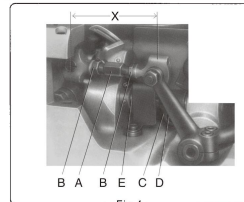
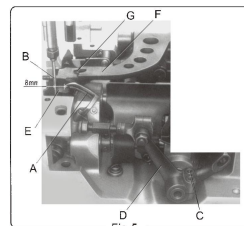
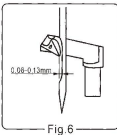
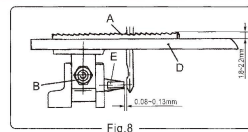

Fig.4
Fig.5
Fig. 6
Fig. 8
(1) Looper
a. First set the looper connecting rod A (Fig. 4), so the distance X (Fig. 4) between the centre lines of the two ball joints is 69.8mm. For adjustment, loosen the two nuts B and turn connecting rod A forward or backward as required to obtain specified dimension. Retighten nuts B.
b. Rotate the machine pulley clockwise by hand, so that the needle bar moves to the lowest point. At this time the looper moves back to its farthest position to the right. The distance from the point of the looper A (Fig. 5) to the centreline of the needle is 5mm. For adjustment, loosen two screws C in the looper drive lever rotate looper drive lever D left or right as required to obtain specified dimension and retighten screws C.
c. Rotate the machine pulley so that the looper A (Fig. 5) moves from right to left. The looper point should pass close as possible as the back of the needle without contacting, about 0.08-0.13mm (Fig. 6) clearance. For adjustment, loosen screw D (Fig. 4) in the looper eccentric fork C and turn rocker shaft E on the looper rocker with the looper forward or backward as required. Retighten screw D.
(2) Needle Bar
The needle guard (Fig. 8) will protect the needle and prevent it from bending when the needle goes down. The clearance between the needle and the needle guard is 0.08mm-0.13mm (Fig. 8). For adjustment, rotate pulley in the direction of operating, so the needle guard moves against the needle. Loosen set screw G on feed dog holder (Fig. 5), move the needle guard accordingly. Retighten screw G.
The height of the feed dog A (Fig. 8) is determined by the quality and the thickness of the sewing material. For sewing thin material such as bags made of cloth and plastic, teeth surface should project 1.5mm above the throat plate D top surface, and for sacks about 2.2mm above the throat plate. For setting, move the feed dog to the highest position, loosen nut B and adjust feed dog by raising or lowering it. Retighten nut B.